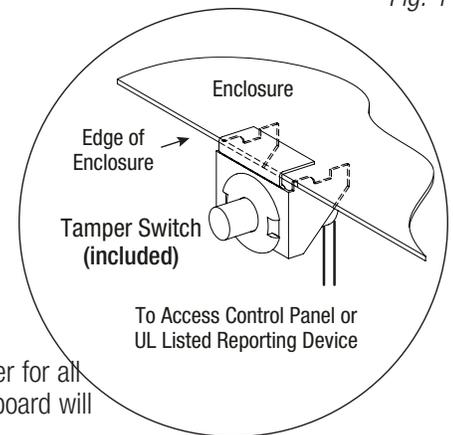

Fig. 1
3. Mount included UL Listed tamper switch (Altronix Model TS112 or equivalent) in desired location, opposite hinge. Slide the tamper switch bracket onto the edge of the enclosure approximately 2" from the right side (*Fig. 1, pg. 2*). Connect tamper switch wiring to the Access Control Panel input or the appropriate UL Listed reporting device. To activate alarm signal open the door of the enclosure.